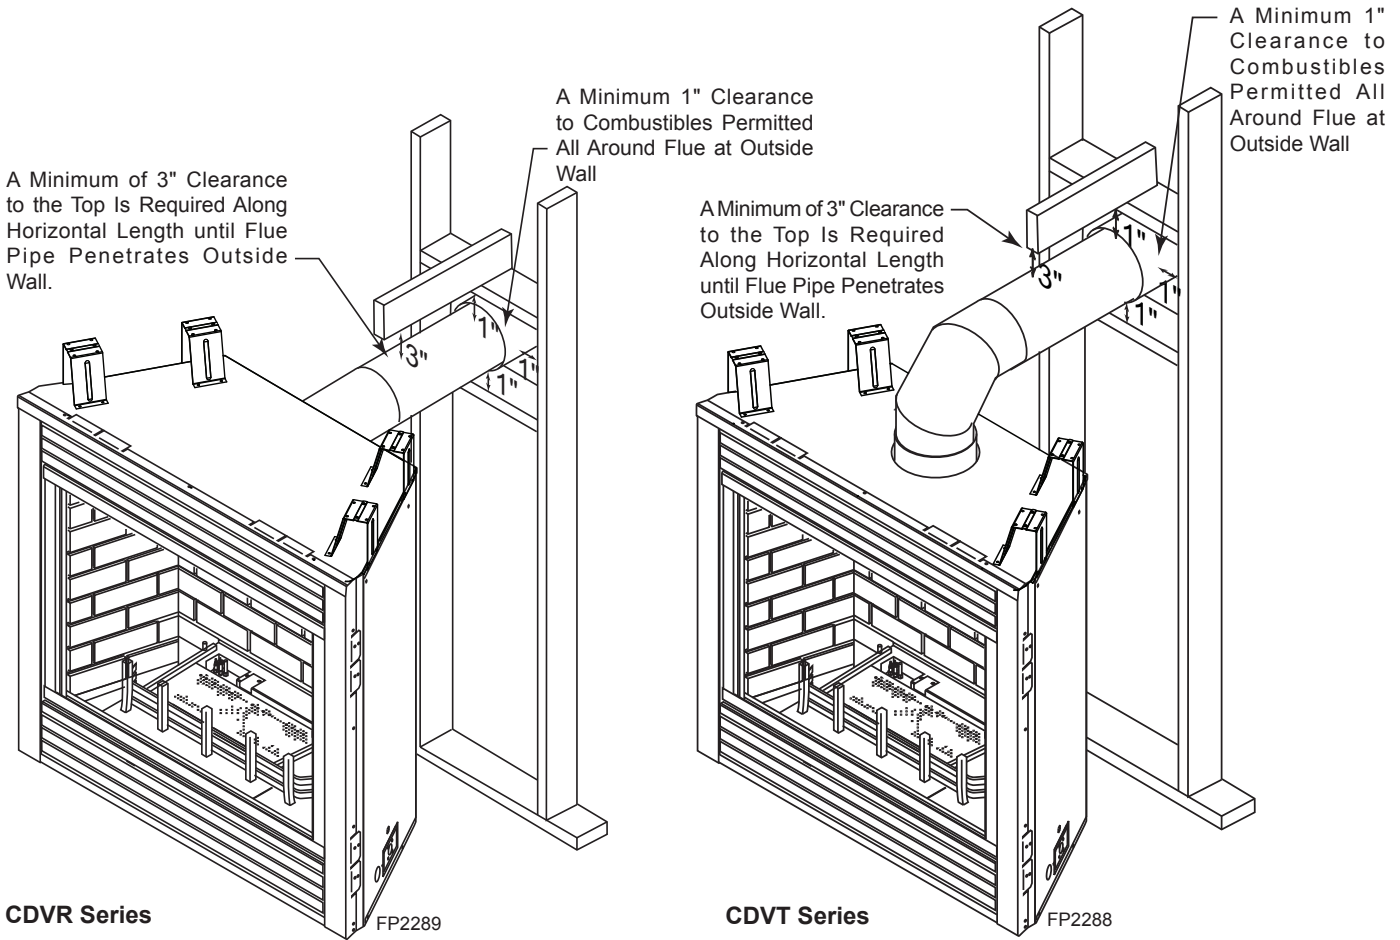

Figure 14 - Combustible Clearances for Vent Pipe
- The maximum horizontal distance between the rear of the appliance (or end of the transition elbow in a corner application) and the outside face of the rear wall is 20" (508 mm). *Figure 14*